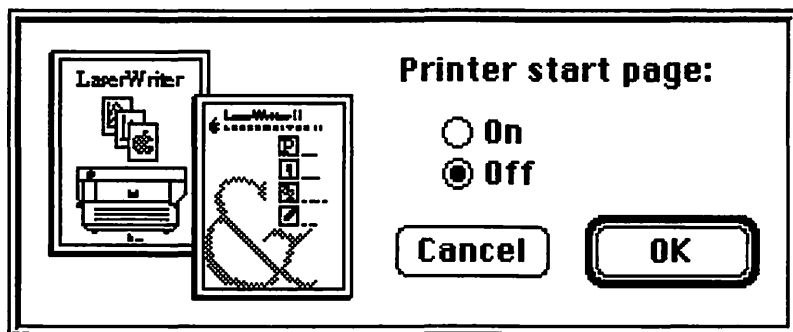

Figure 25 Printer Start Page dialog box.
1. Select the **Start Page Options...** command from the Utilities menu. The **Printer Start Page** dialog box, shown in Figure 25, will be displayed.